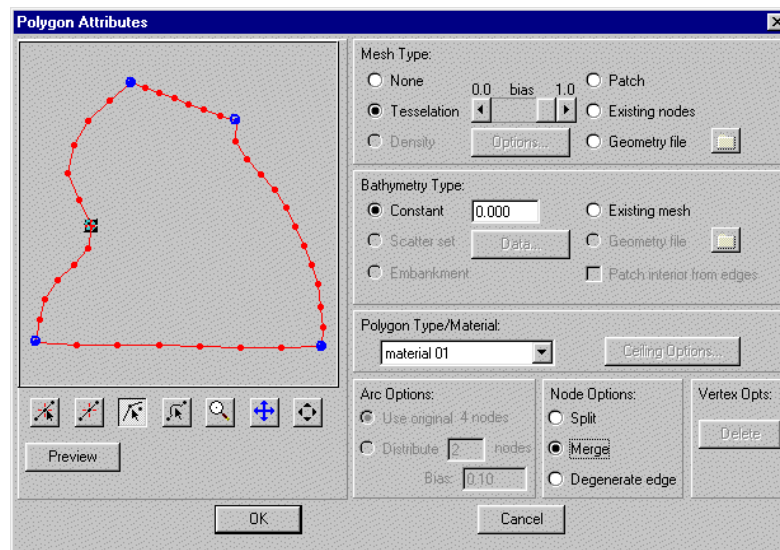

Figure 2-10 The Feature Polygon Attributes dialog.
3. Click on the node at the center of the left side, as seen in Figure 2-10.